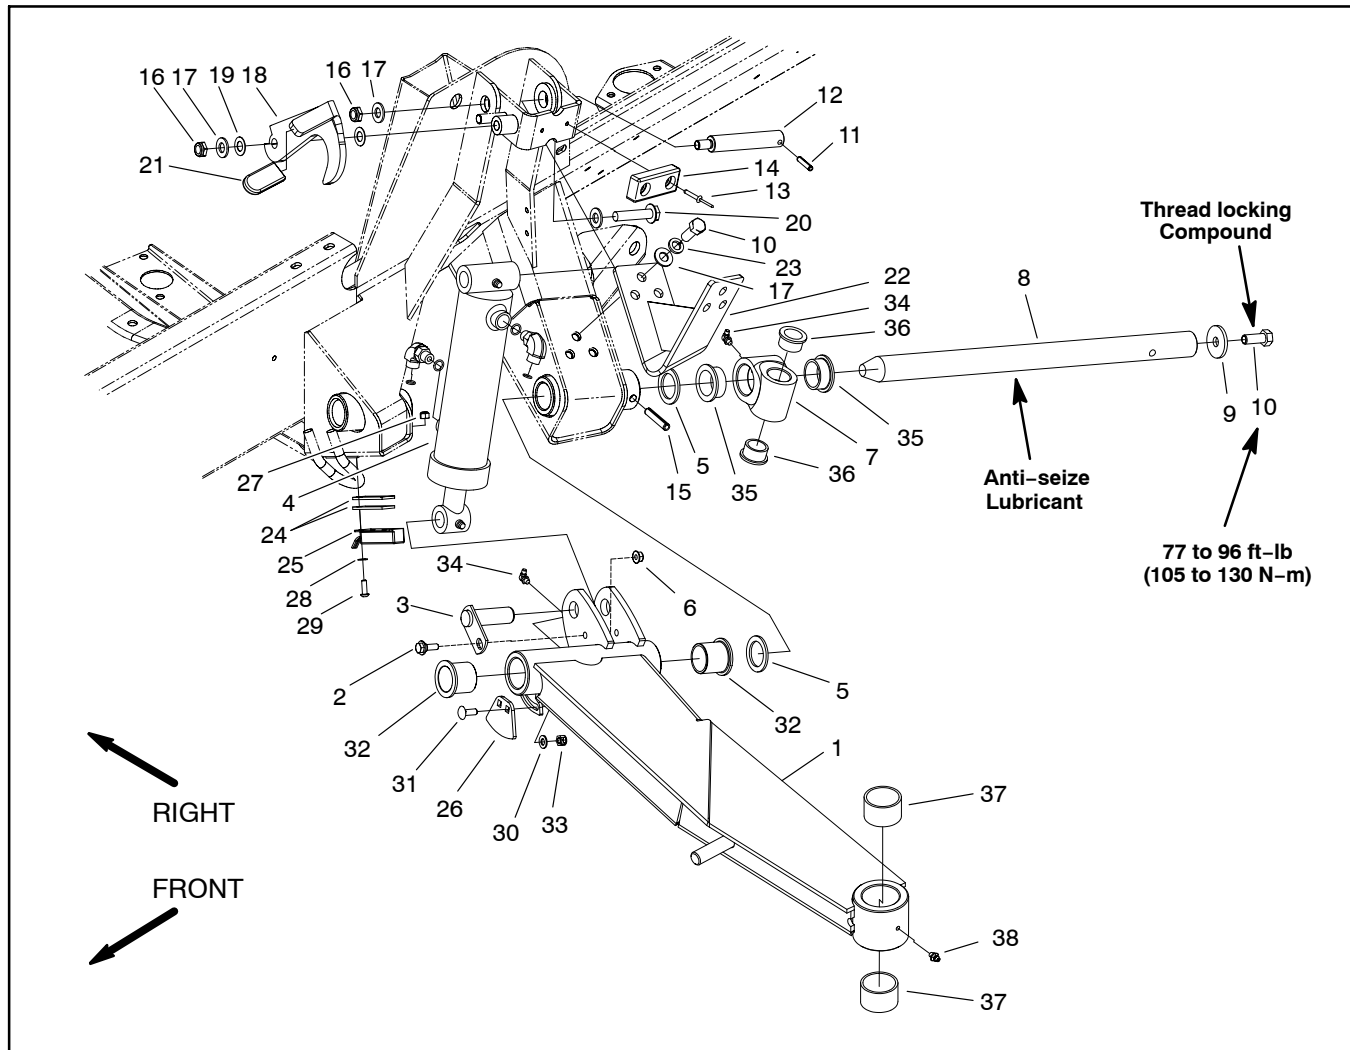

Figure 5
Removal (Fig. 5)
Installation (Fig. 5)
2. Position lift arm to frame with thrust washers properly placed (Fig. 5). Slide pivot shaft into frame and lift arm until roll pin holes align.